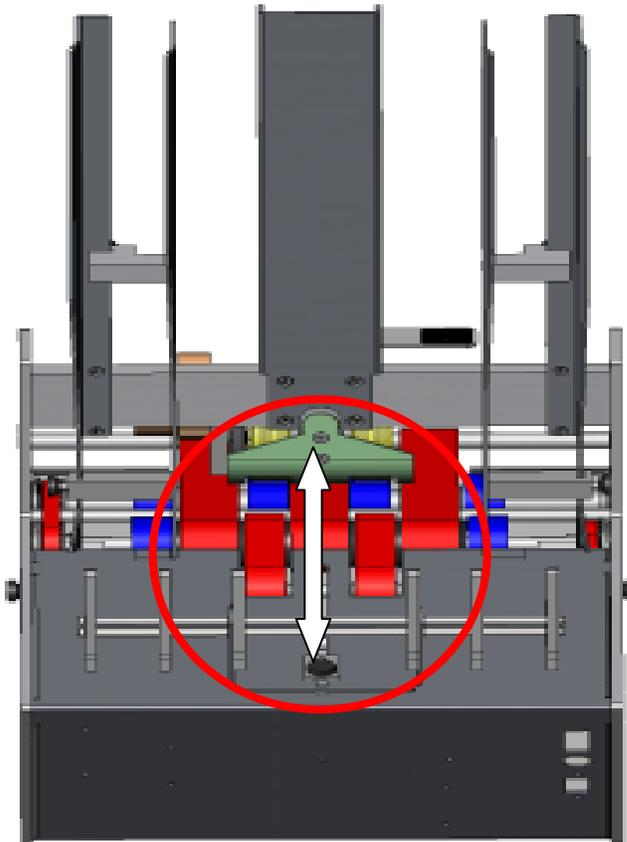

Figure III-3
4. Align the center crease of the set up piece with the separator shroud mounting screw and back wedge center channel, see figure III-3